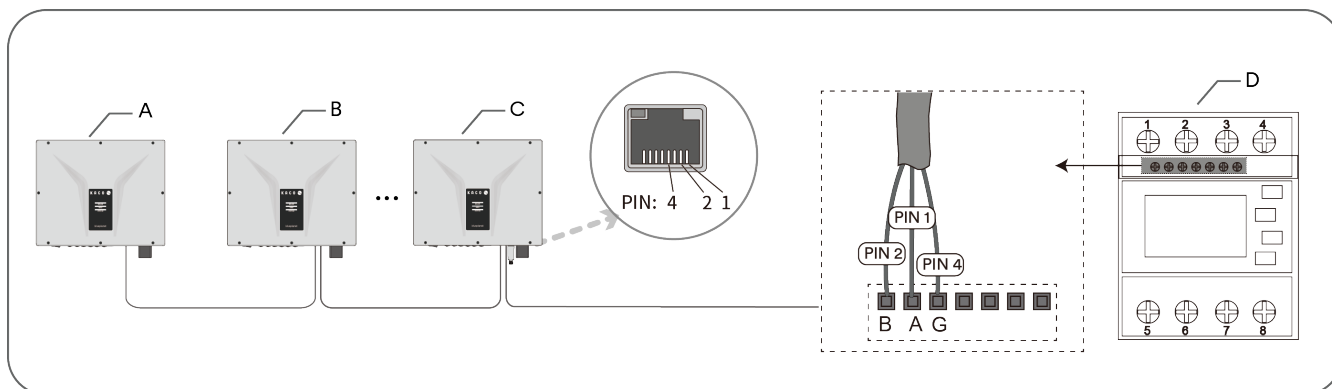
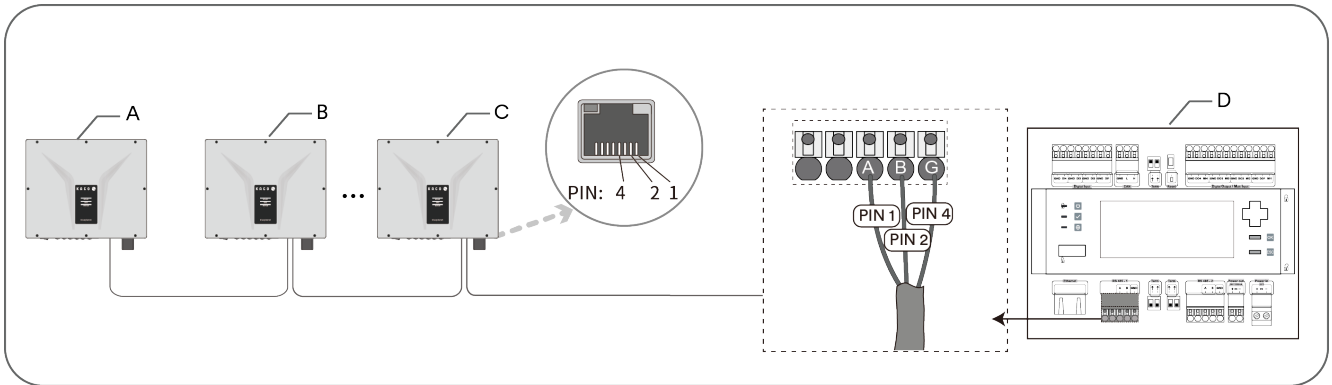

Fig. 39. RS485 Bus system connection with Communication device
Fig. 40. RS485 Bus system connection with Data Logger
2. Strip the insulation of the other side from the network cable and screw copper wire to the corresponding terminal. [ PH0  0.7Nm] (See Fig. 39 Fig. 40).